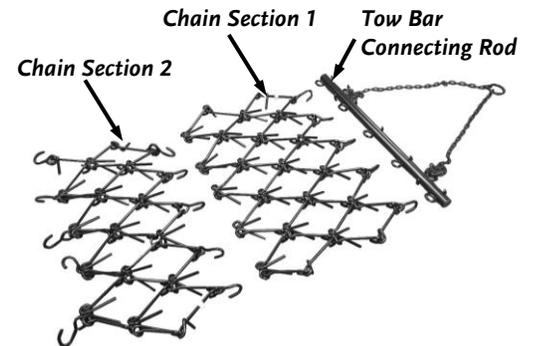

Figure 2
**Note:** Chain Section 1 has a set of hooks on one end and Chain Section 2 has a set of hooks on both ends. See Figure 2.
1. Position the Tow Bar Connecting Rod, Chain Section 1 and Chain Section 2 on a Flat Surface. Ensure that the Tines on both Chain Sections are all facing down and forward (Figure 2).